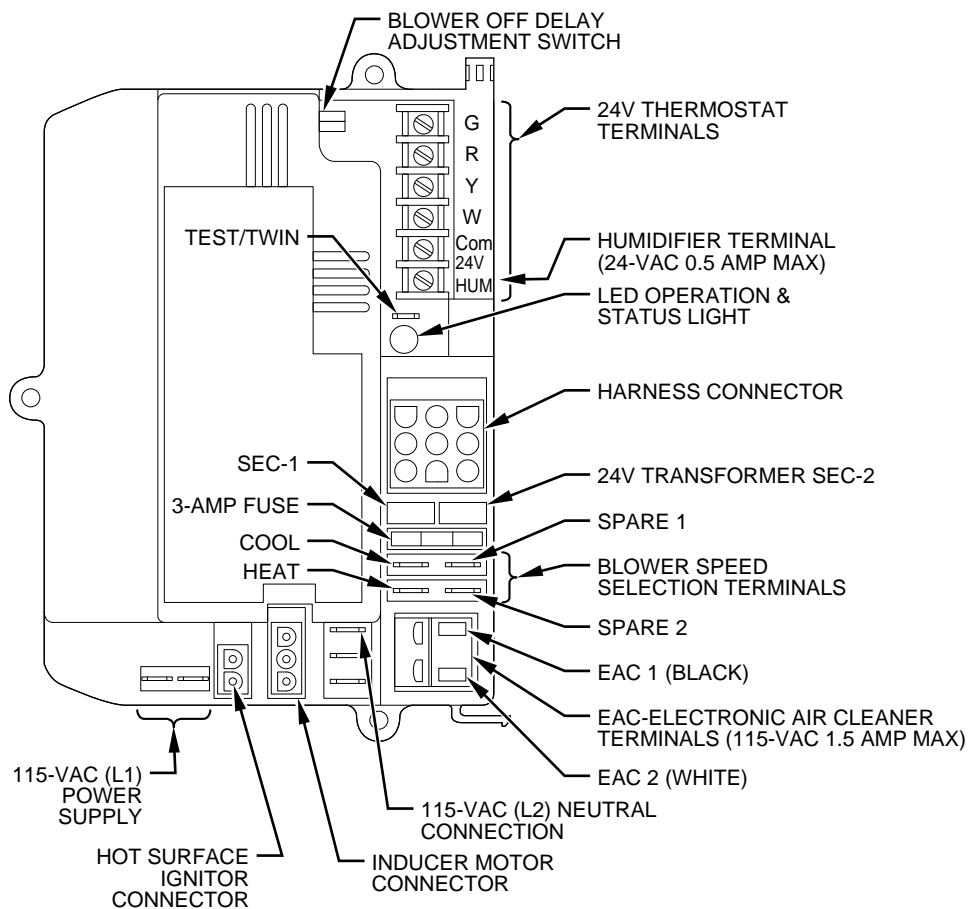

Fig. 12—Control Center
The 24-v circuit contains an automotive-type, 3-amp fuse located on the control center. (See Fig. 12.) Any direct shorts of the 24-v wiring during installation, service, or maintenance will cause this fuse to blow. If fuse replacement is required, use ONLY a fuse of identical size.
4. BRIEFLY short (jumper) TEST, 1/4-in. quick-connect terminal on control center (adjacent to the LED diagnostic light) and the COM terminal on thermostat connection block. (See Fig. 12.)